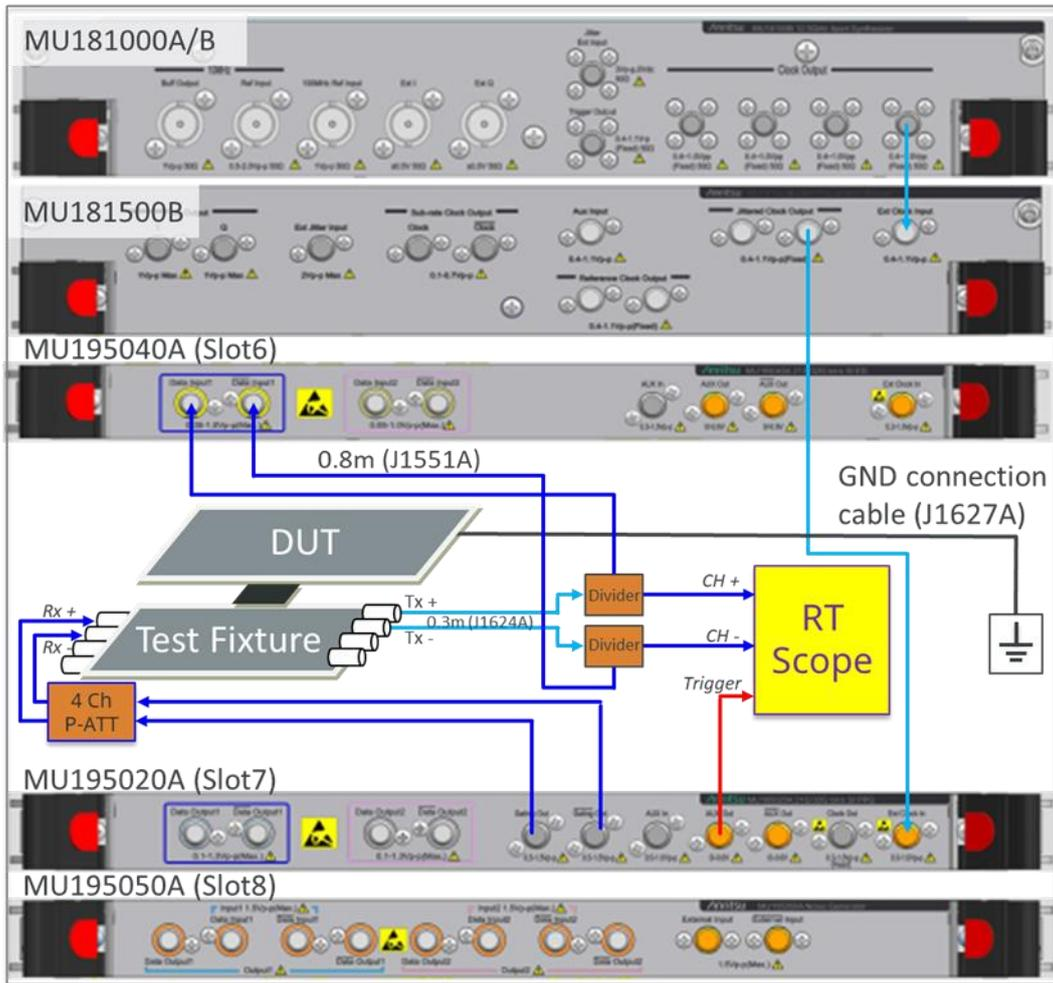

Figure 4.1-2 90 mV, 100 mV, 200 mV, 300 mV, and 800 mV LFPS signal testing connection
- Connect the setup as shown in Figure 4.1-2.